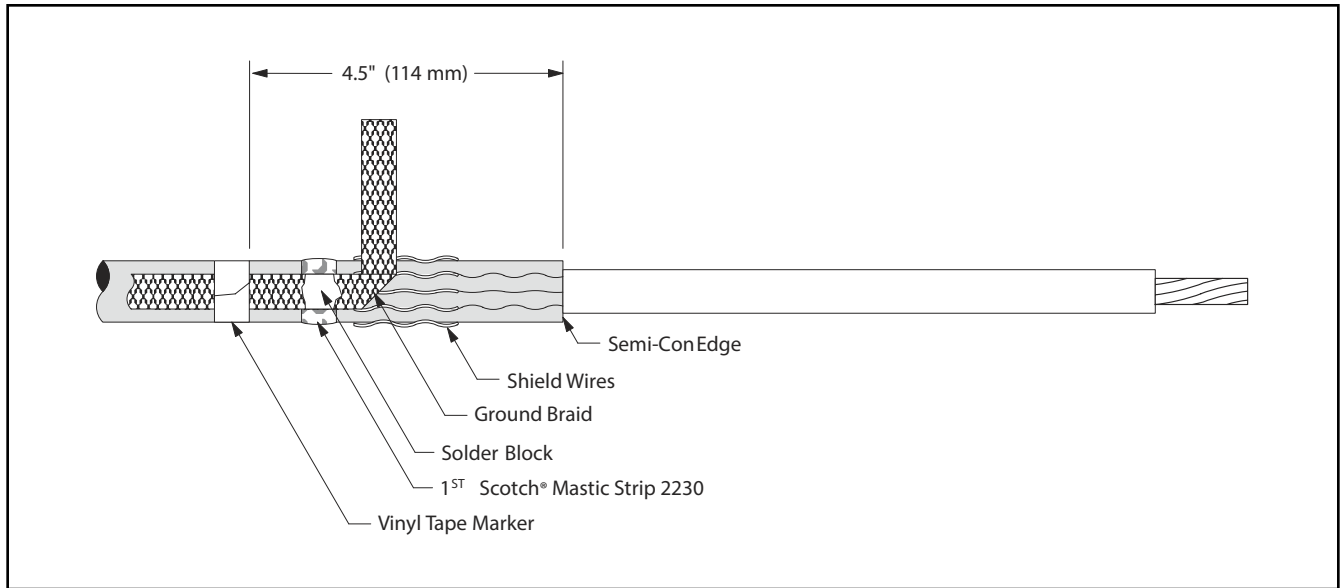

Figure 20
12.2 Position pre-formed ground braid with short tail directly over cut edge of folded back shield wires. Position long tail of ground braid, extending over cable jacket with solder block over mastic strip (Figure 20). Secure ground braid to cable semi-conductive jacket 4.5" (114 mm) from cable semi-con edge using vinyl tape (Figure 20).